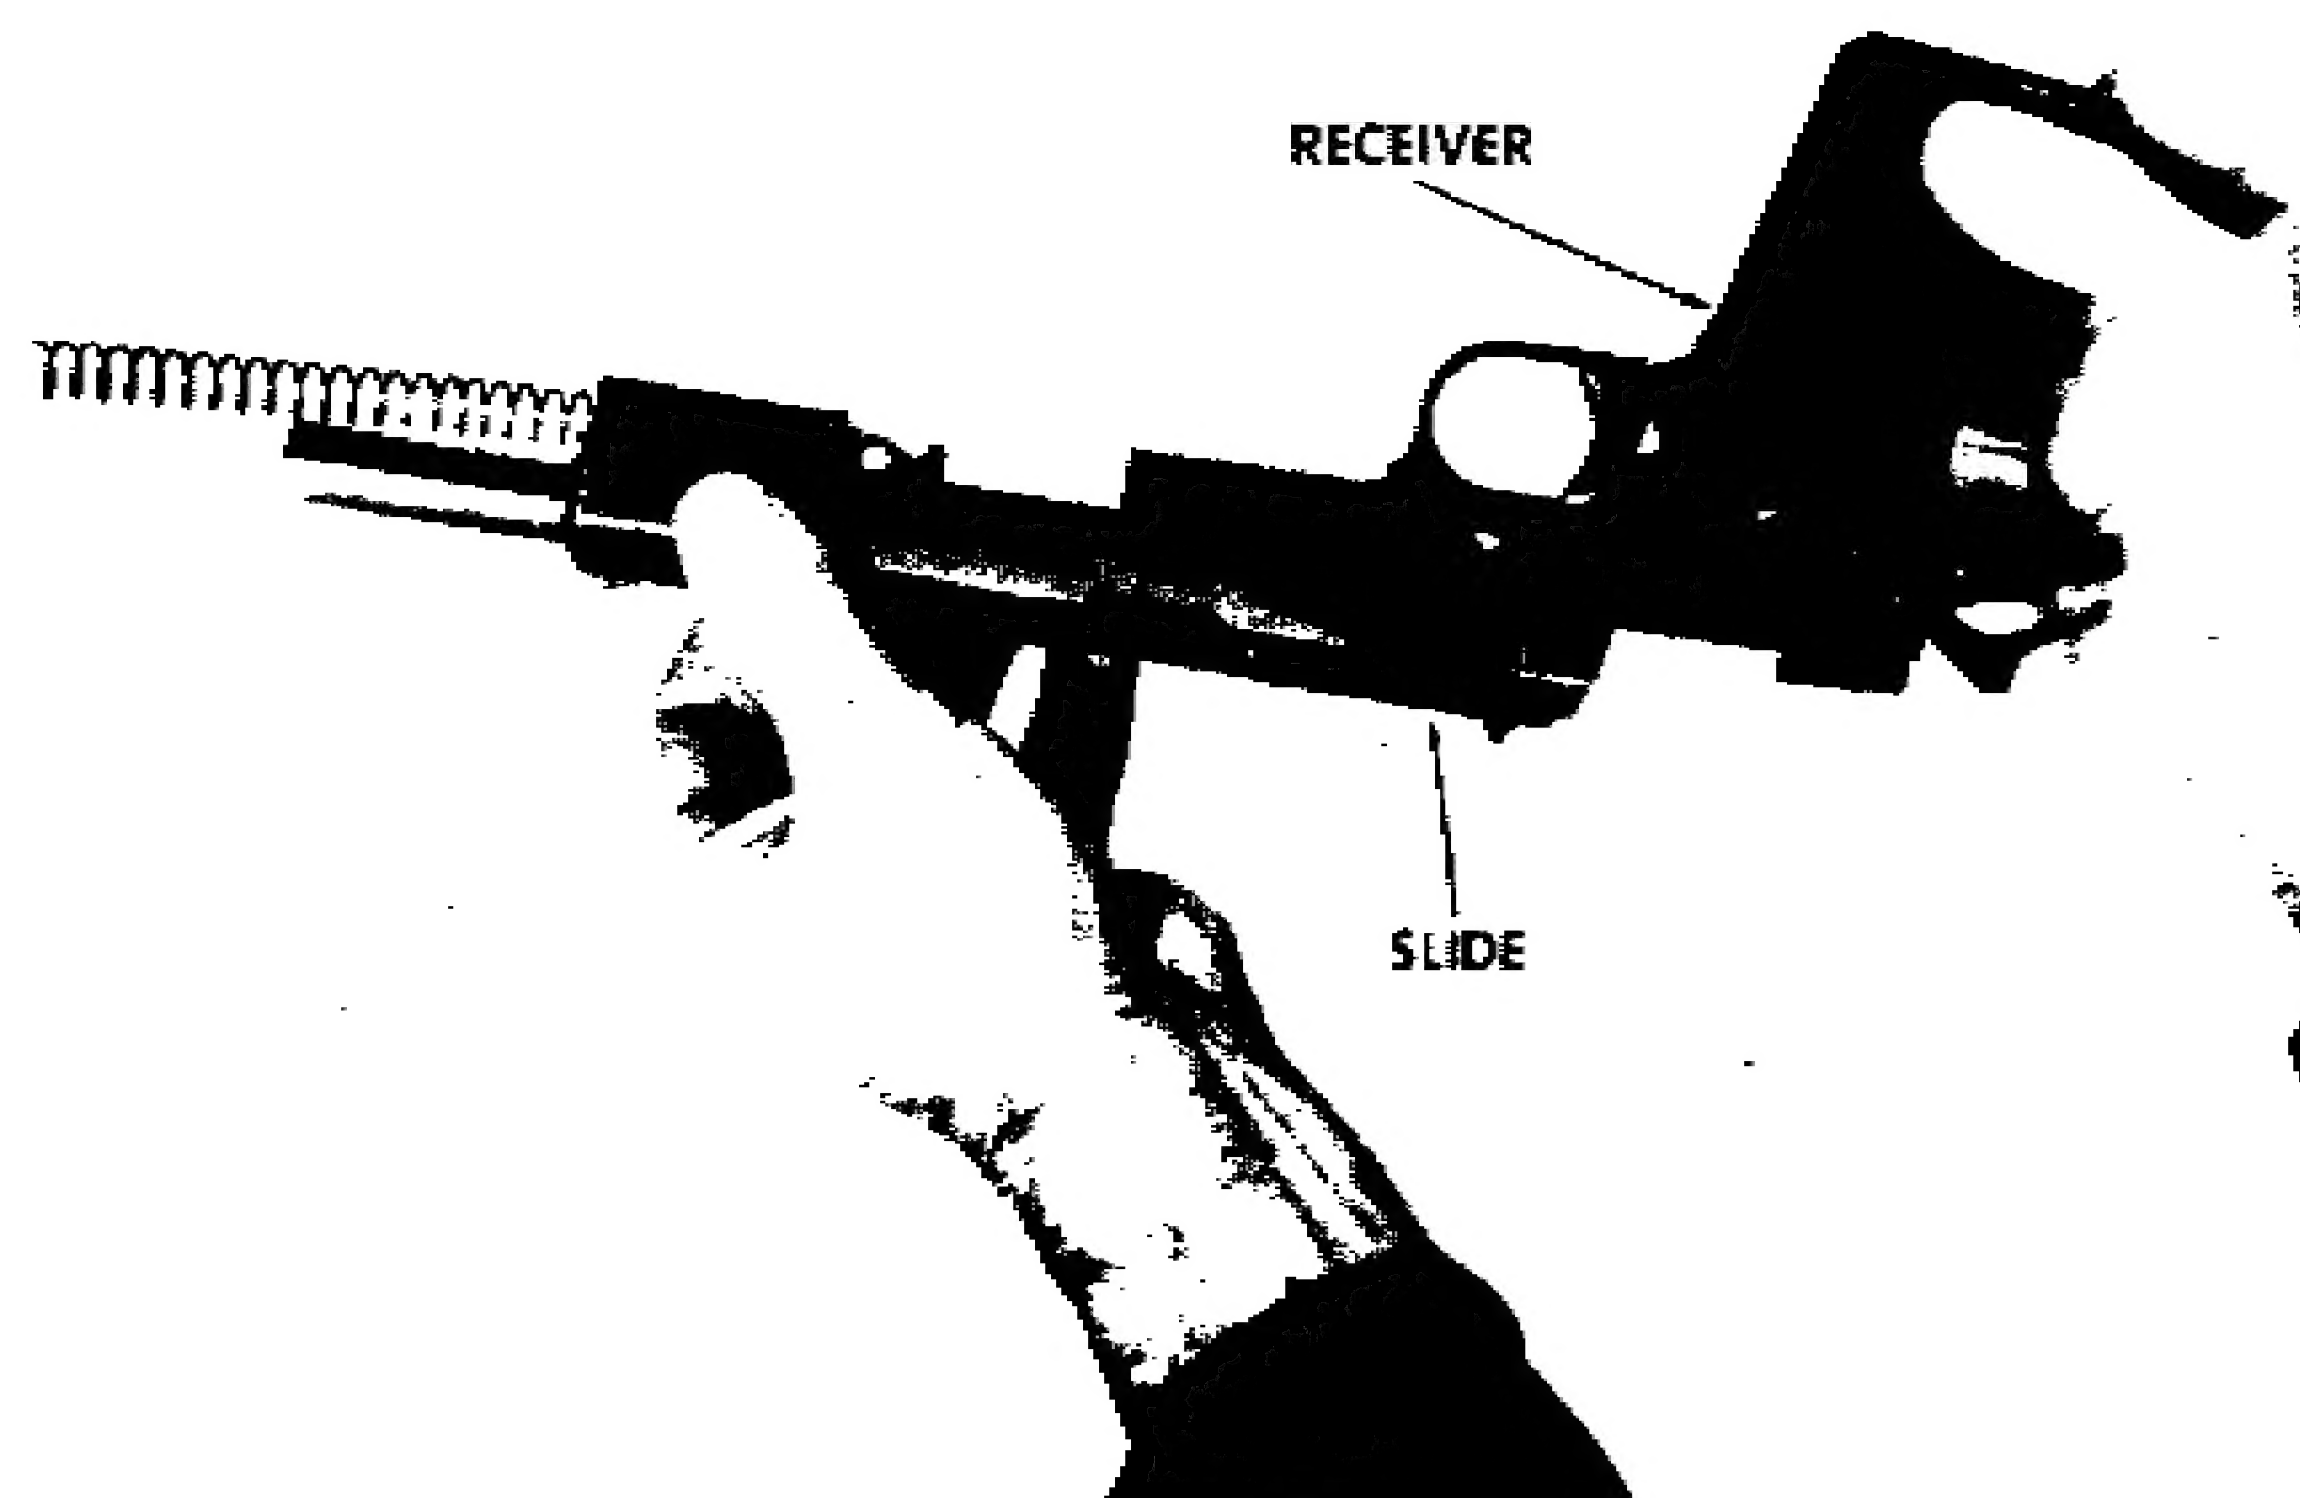

Figure 9. Pull the receiver rearward to separate it from the slide.
forward and rests against the hole in the recoil spring guide (fig. 9).
d. *Assembling the Receiver Group to the Slide Group.* Hold the slide with the sights down in the palm of one hand. Invert the receiver (the safety lock must be in the FIRE position) and engage the guide rails of the receiver in the grooves of the slide (fig. 9.). Push the receiver all the way forward on the slide with a quick motion.